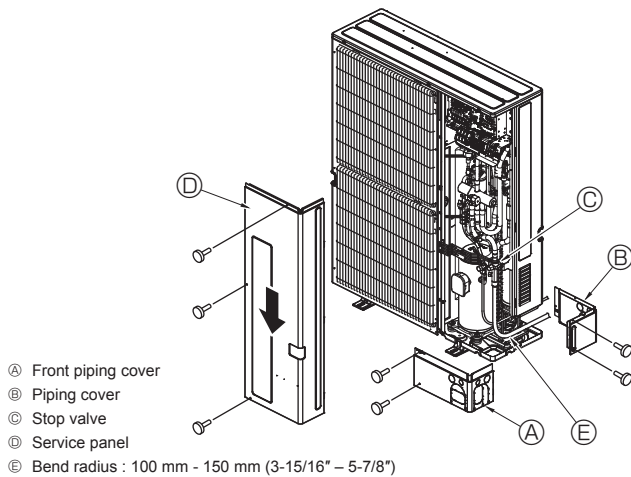

Fig. 4-7
4.5. Refrigerant piping (Fig. 4-7)